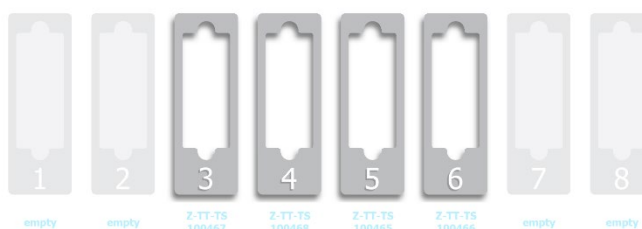

Figure 40
10. Press "Start Assay" after all tray positions were scanned and the chips displayed (Figure 40).